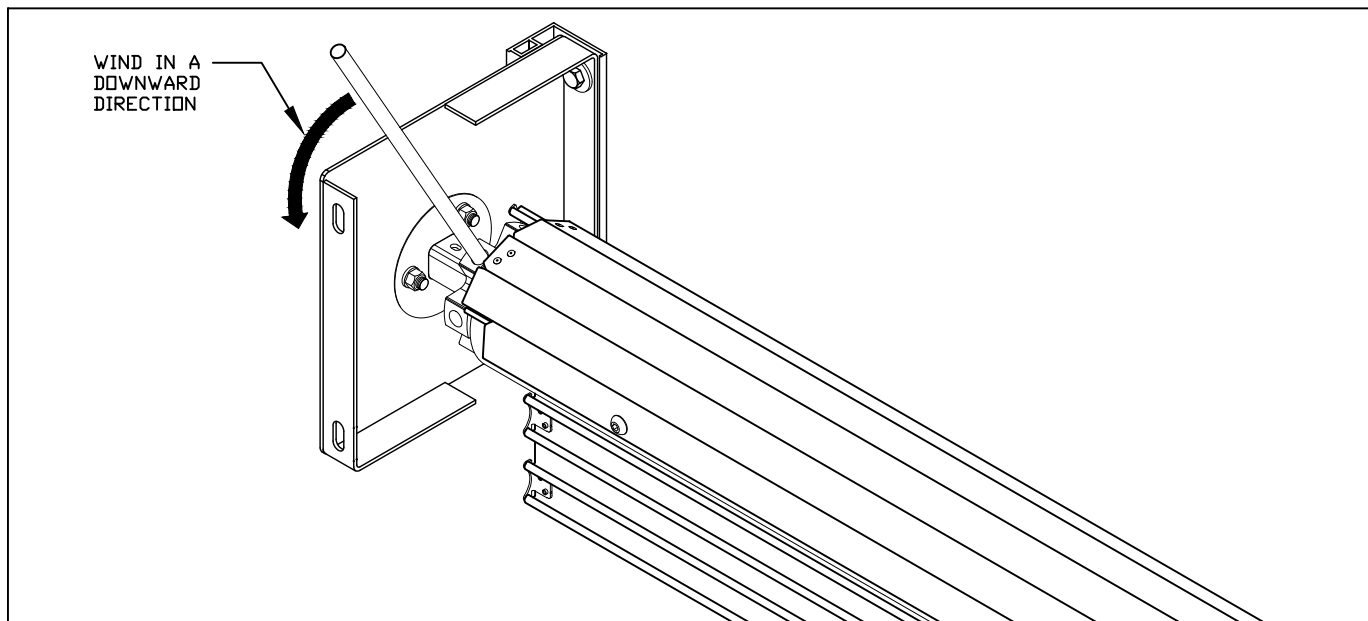

FIGURE 13
- b. Apply tension from the top, downward, as shown in Figure 13 to the preload amount shown on tension headplate label, barrel sticker, or shop drawing.